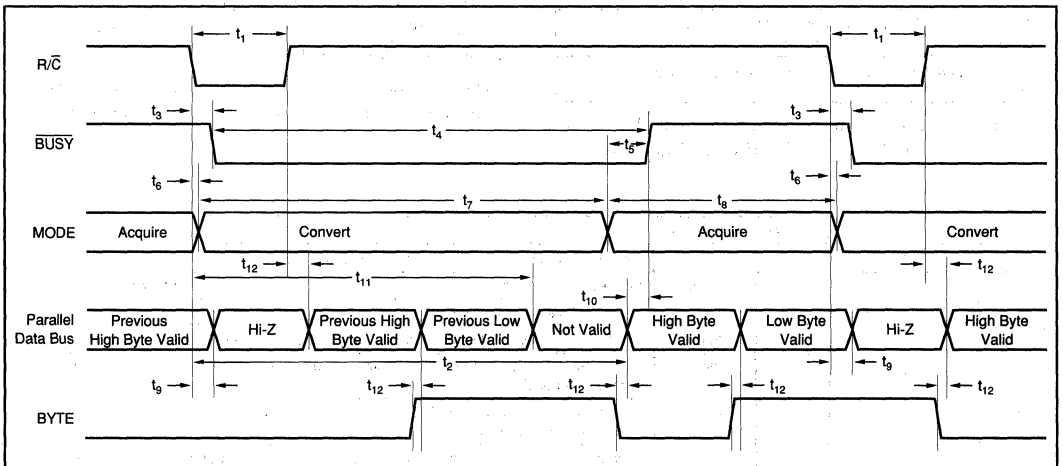

FIGURE 2. Conversion Timing with Parallel Output ($\overline{\text{CS}}$ and DATACLK tied LOW, $\overline{\text{EXT/INT}}$ tied HIGH).
The ADS7807 will begin tracking the input signal at the end of the conversion. Allowing 25µs between convert commands assures accurate acquisition of a new signal. Refer to Tables III and IV for a summary of \overline{CS} , R/\overline{C} , and \overline{BUSY} states and Figures 2 through 6 for timing diagrams.
NOTE: (1) See Figures 2 and 3 for constraints on data valid from conversion "n-1".
After conversion 'n' is completed and the output registers have been updated, BUSY (pin 24) will go HIGH. Valid data from conversion 'n' will be available on D7-D0 (pins 9-13 and 15-17). $\overline{\text{BUSY}}$ going high can be used to latch the data. Refer to Table VI and Figures 2 and 3 for timing constraints.
After conversion 'n' has been initiated, valid data from conversion 'n-1' can be read and will be valid up to $12\mu\text{s}$ after the start of conversion 'n'. Do not attempt to read data beyond $12\mu\text{s}$ after the start of conversion 'n' until BUSY (pin 24) goes HIGH; this may result in reading invalid data. Refer to Table VI and Figures 2 and 3 for timing constraints.